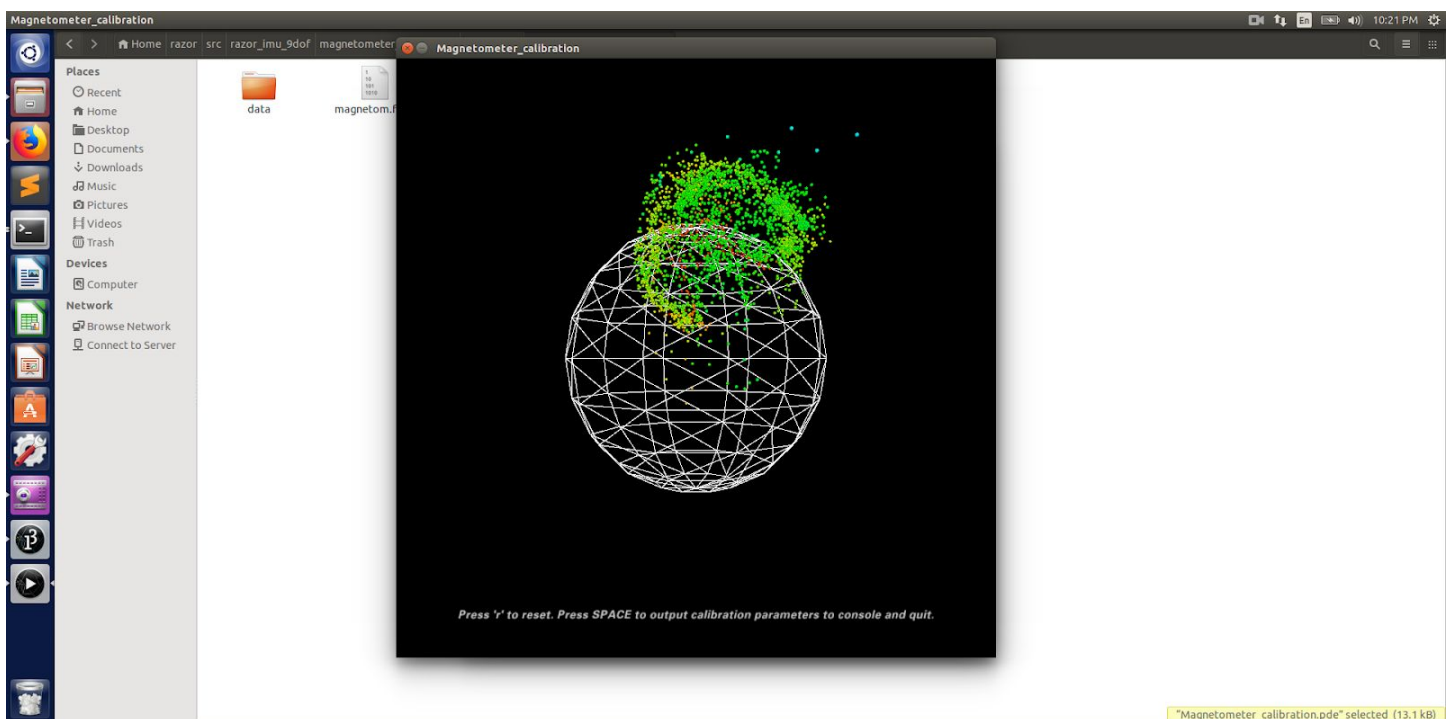

Fig 2: Magnetometer calibration of IMU
- 8) I used magnetometer calibration sketch to calibrate and visualize the calibration(as shown in Fig 2). It gave the parameters that were supposed to be incorporated in the firmware file for the magnetometer calibration.